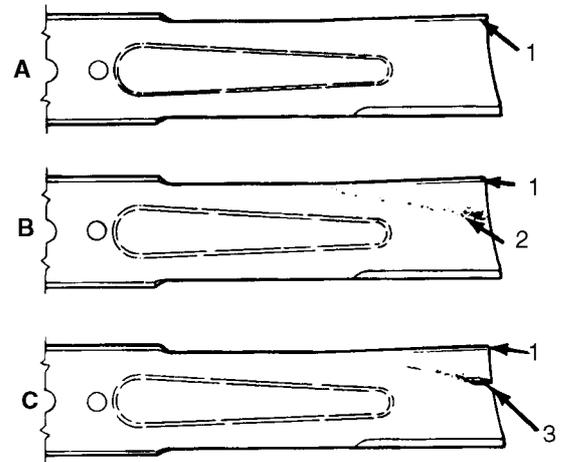

Figure 19
INSPECTING AND SHARPENING THE BLADE (Fig. 19–20)
4. Examine the cutting ends of the blade carefully, especially where the flat and curved parts of the blade meet (Fig. 19-A). Since sand and abrasive material can wear
away the metal that connects the flat and curved parts of the blade, check the blade before using the machine. If wear is noticed (Fig. 19-B), replace the blade: refer to *Removing The Cutter Blade*.